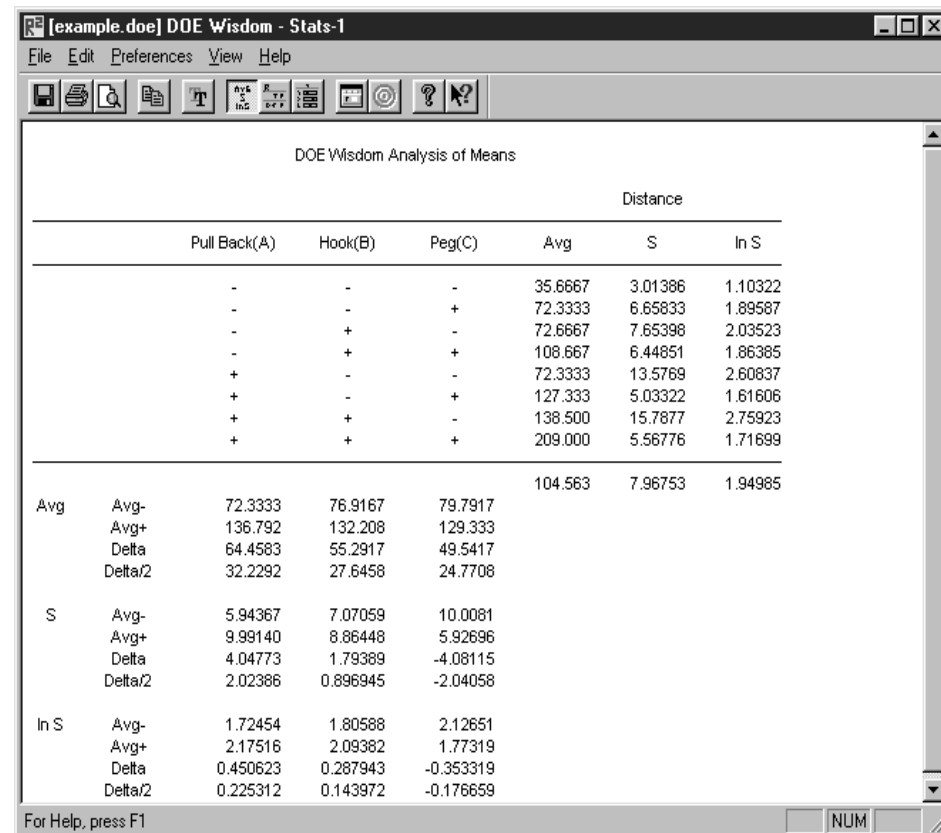

Figure 5-4
When Analysis of Means is selected, a screen similar to the one shown in Figure 5-4 will appear. If there are several factors and not all of them fit in the area, simply use the scroll bars to move to different sections of the window.
- Avg -** This is the average of the response values for a factor at its low (-) settings. For Pull-Back in Figure 5-4, the Avg - is 72.3333. This is the average of (35.6667 + 72.3333 + 72.6667 + 108.667).
- Avg +** This is the average of the response values for a factor at its high (+) settings. For Pull-Back in Figure 5-4, the Avg + is 136.792. This is the average of (72.3333 + 127.333 + 138.500 + 209.000)